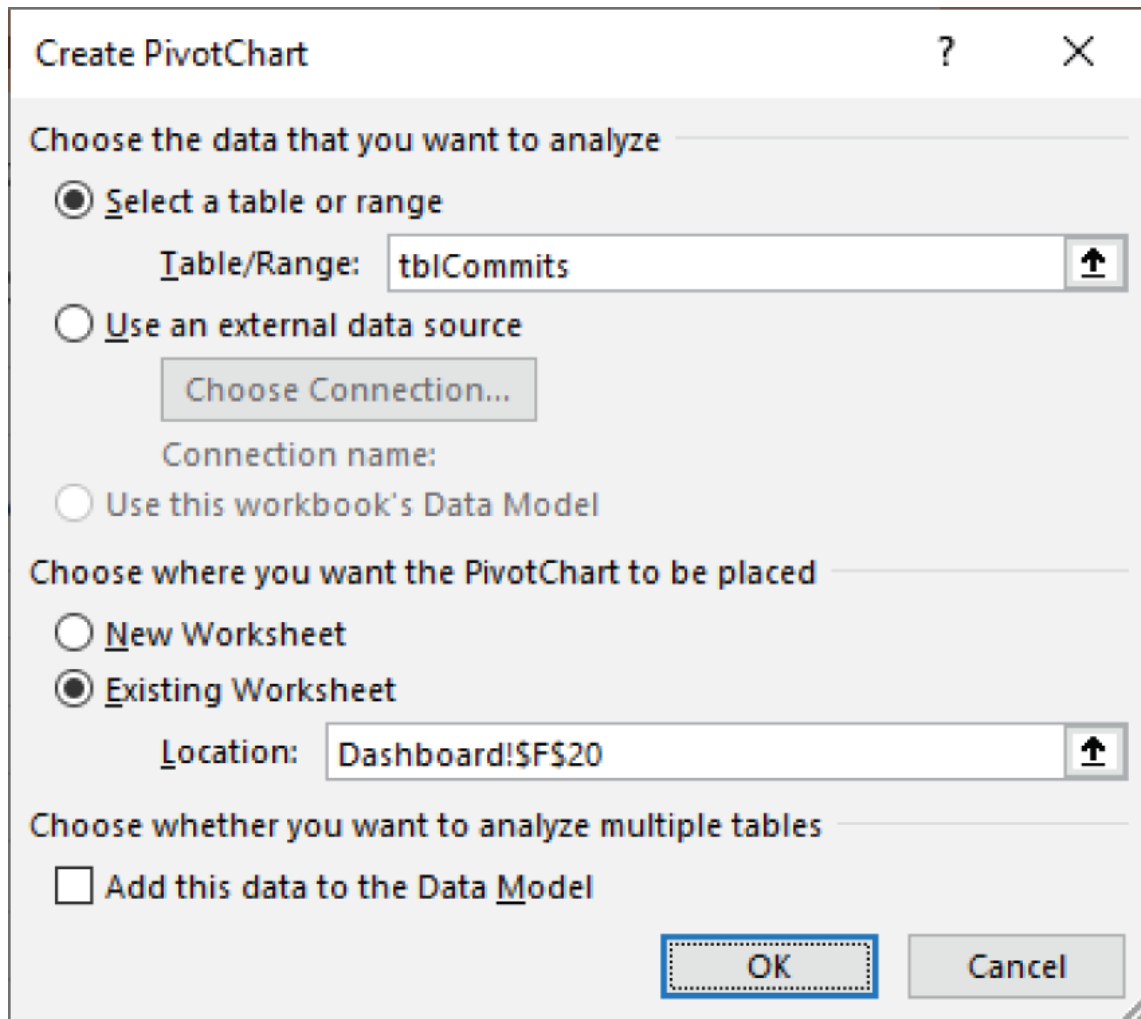

Figure 2.11: Create a PivotChart on the Dashboard worksheet.
4. Choose Existing Worksheet and select a cell on the Dashboard worksheet. It doesn't matter which cell you select as you will move the chart later. Figure 2.11 shows the Create PivotChart dialog.